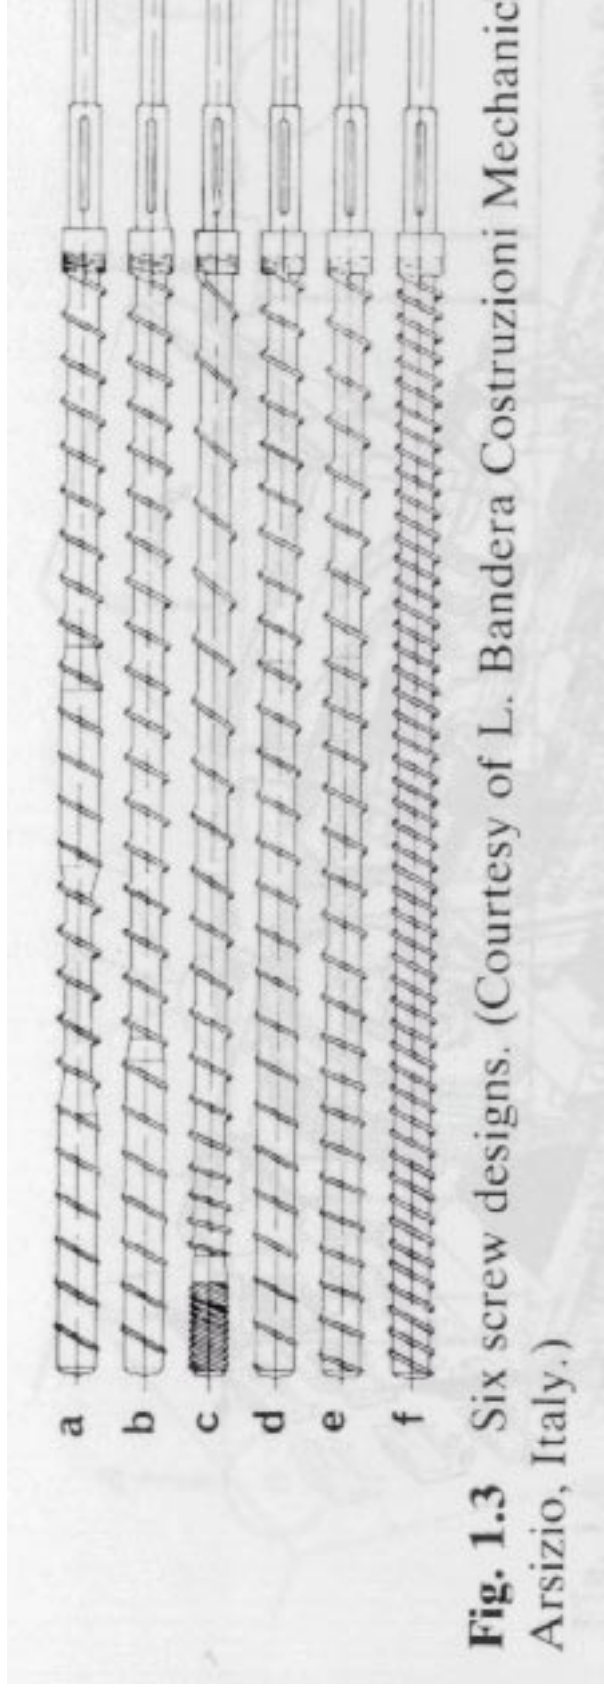

Fig. 1.3 Six screw designs. (Courtesy of L. Bandera Costruzioni Meccaniche Arsizio, Italy.)
- 1) For the screw extruders shown on page 5 figure 1.3 explain what the various arrangements of screw threads might be achieving in a processing application.